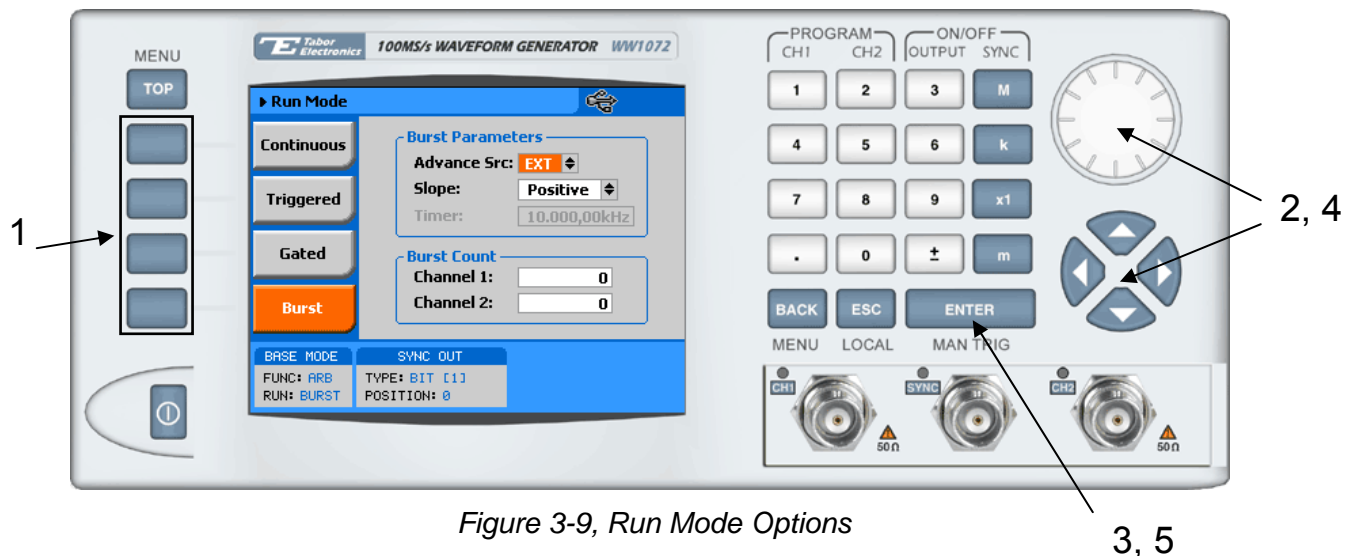

Figure 3-9, Run Mode Options
Triggered, Gated, and Burst modes require an external signal to initiate output cycles. In some case, an internal trigger generator is available to generate the required trigger stimuli without the need to connect to external devices. Figure 3-9 show the run mode options. Press one of the soft keys in the left to select the required run mode.
**Burst run mode is shown in Figure 3-9 as an example however, the following description applies to all Run Modes.**
In general, a specific run mode is selected from the Run Modes soft key menu. The screen as shown in Figure 3-9 is displayed. Proceed to select the run mode and to program parameters as follows: